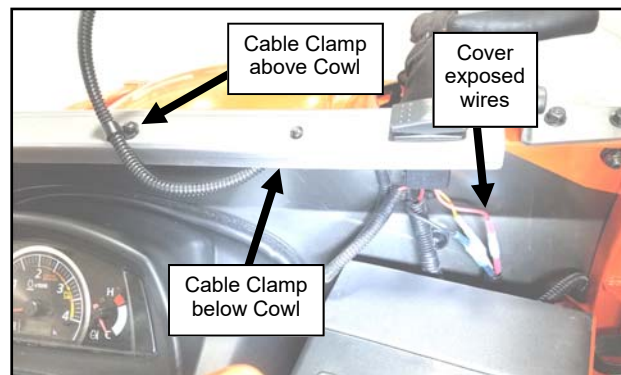

Fig. 19.3 (Secure Wires to Cowl)
19.3 Open the windshield and secure the wiring harness to the cowl using cable clamps. Verify the wiper harness routing allows the windshield to be opened and closed without the harness getting pinched under the windshield. See Figure 19.3.